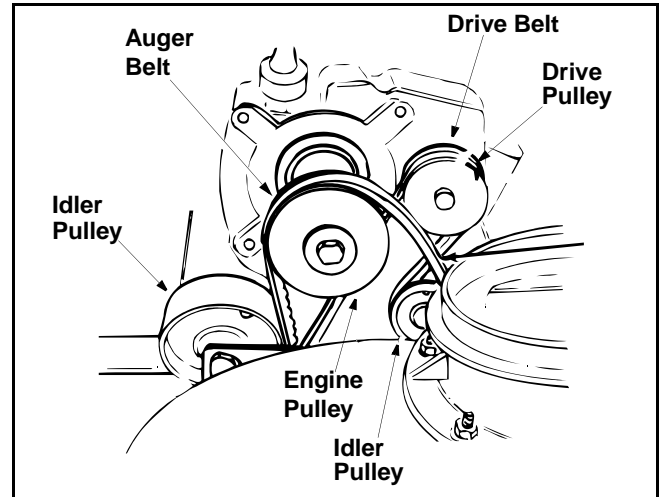

Figure 28
- Roll the front and rear auger belts off the engine pulley. See Figure 28.
- Pull idler pulley up, and lift belt off engine pulley and friction wheel disc. See Figure 28.